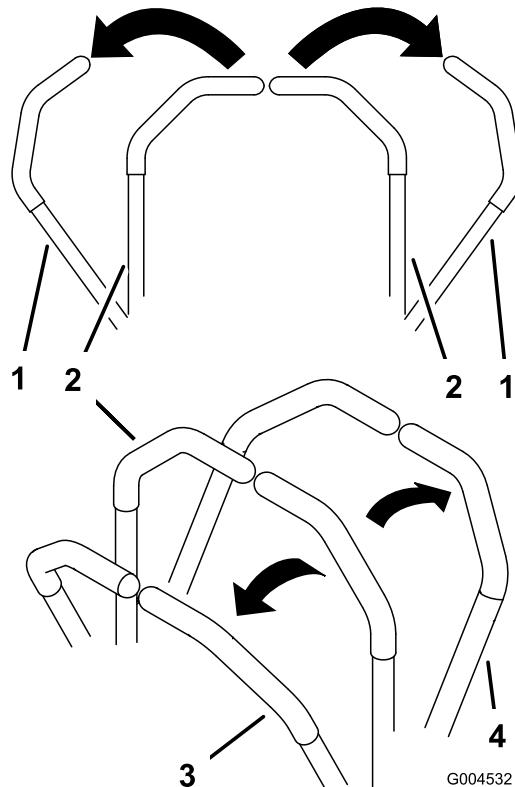

Figure 17
1. Move the motion control levers (Figure 17) out to the neutral lock position.
3. To go forward, slowly push the motion control levers forward (Figure 17).
To go straight, apply equal pressure to both motion control levers (Figure 17).
To turn, move the motion control lever toward neutral in the direction you want to turn (Figure 17).
2. To go backward, slowly pull the motion control levers rearward (Figure 17).
To turn, release pressure on the motion control lever toward the direction you want to turn (Figure 17).